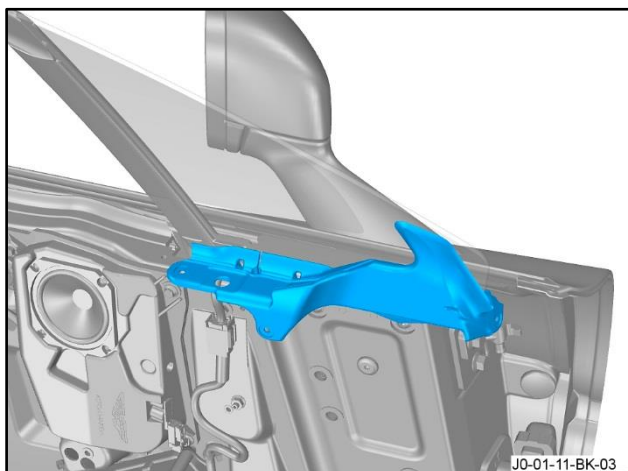

Figure 45
35. Put the new inner moulding for the door in position (refer to Figure 45).
36. Bond the inner moulding to the door and the quarter glass with the two adhesive strips and the butyl rope (refer to Figure 45).